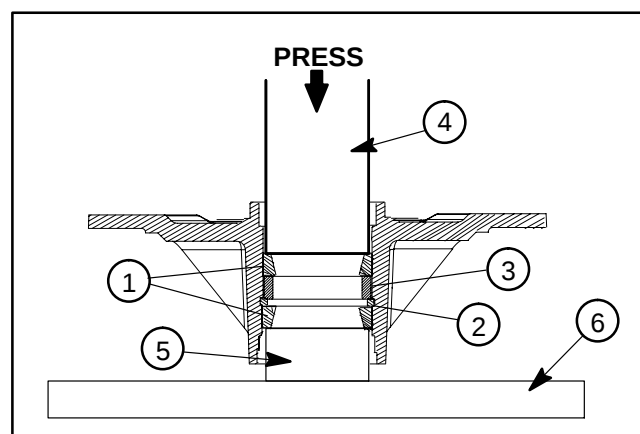

Figure 6
3. Using an arbor press, push the bearing cups into the top and bottom of the spindle housing. The top bearing cup must contact the outer spacer previously installed, and the bottom bearing cup must contact the snap ring. Make sure that the assembly is correct by supporting the first bearing cup and pressing the second against it (Fig 6).